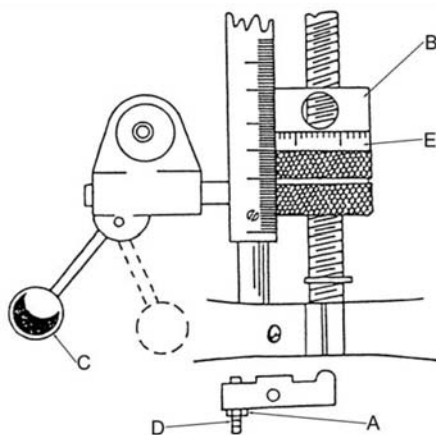

Figure 13: Feed trip adjustment
Refer to Figure 13.
1. Loosen lock nut (A, Figure 13).
2. Engage trip handle (C) by pulling away from head assembly.
3. Adjust micro nuts (E) against quill stop (B).
4. Slowly turn adjusting screw (D) until lever (C) trips.
5. Tighten lock nut (A).